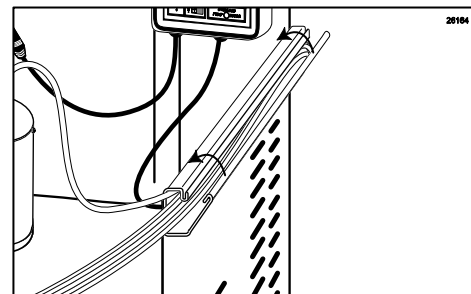

Figure 143
7. Close the Casing, and press all along the connection to secure. (See Figure 143.)